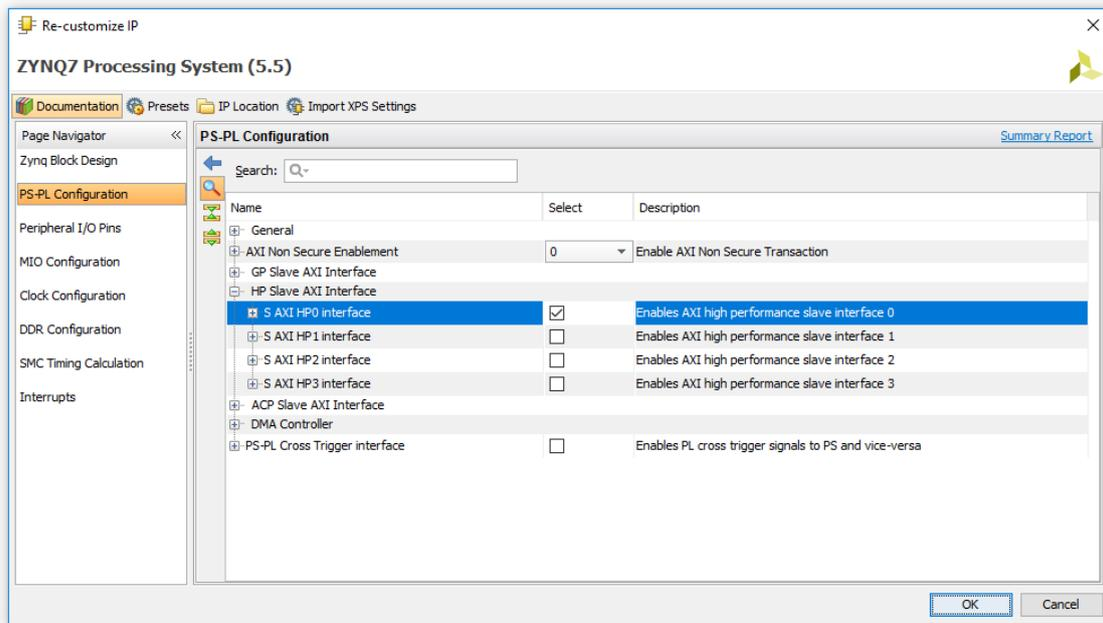

Figure 5: PS-PL Configuration
- In **PS-PL Configuration** (Figure 5), add a Slave High Performance AXI Port.